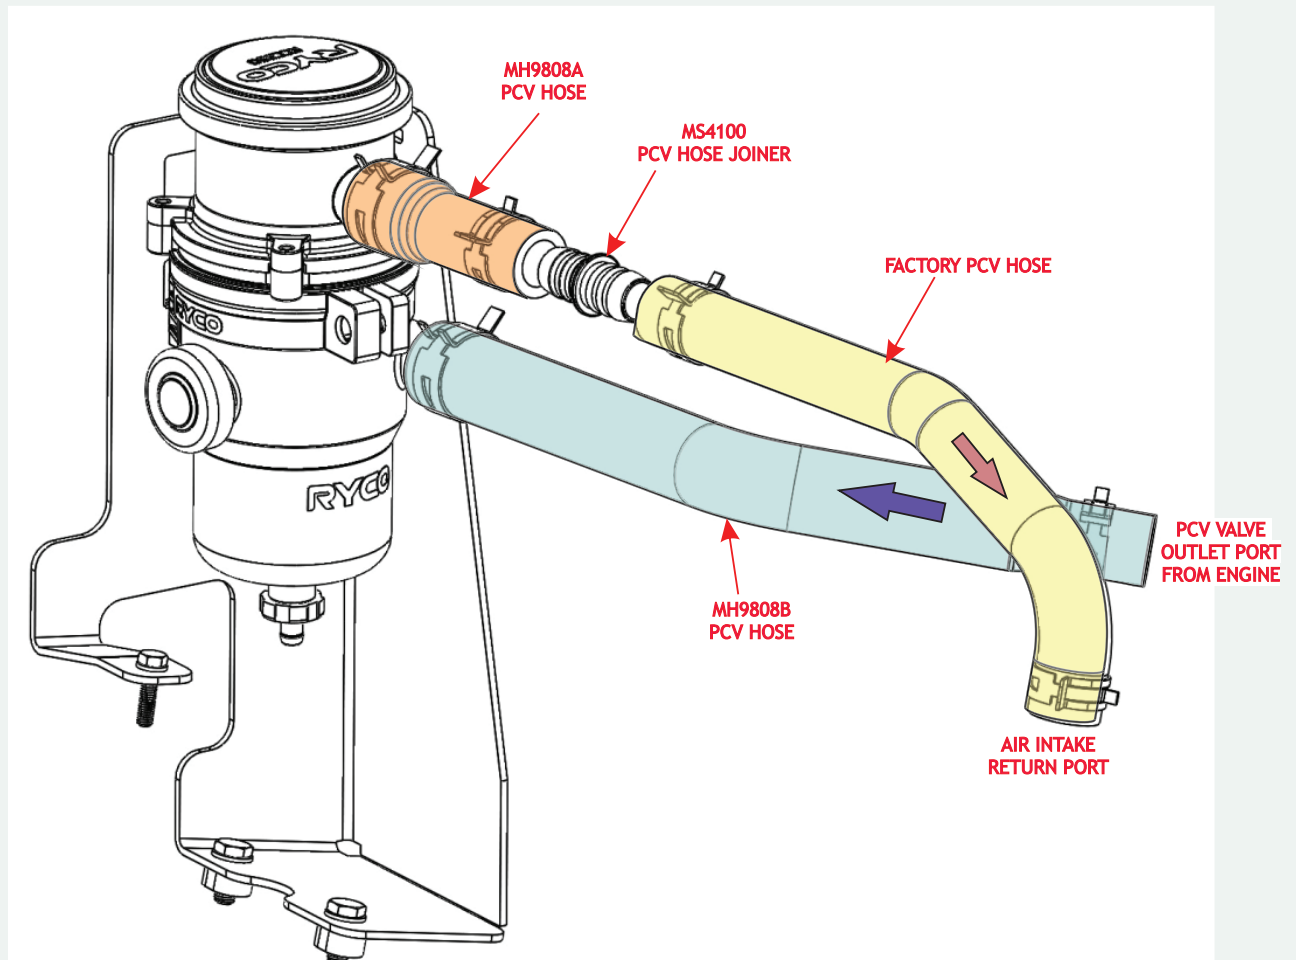

FIGURE 5
- 3 Connect the small end of Ryco PCV hose MH9808B (coloured green in FIG. 5, page 7) to the engine PCV valve outlet using the supplied hose clamp MS4092. Connect the larger diameter end to the lower port of the RCC351. Secure with the supplied hose clamp MS4091.
- 4 Connect a supplied straight hose joiner MS4100 to the small diameter end of the Ryco PCV hose MH9808B (coloured orange in FIG. 5, page 7) and secure with a supplied hose clamp MS4094.
- 5 Connect MH9808B to the factory PCV hose (coloured yellow in FIG. 5) via the hose joiner and secure with a supplied hose clamp, then connect the large diameter end to the upper port of the RCC351 and secure with a supplied hose clamp MS4091.